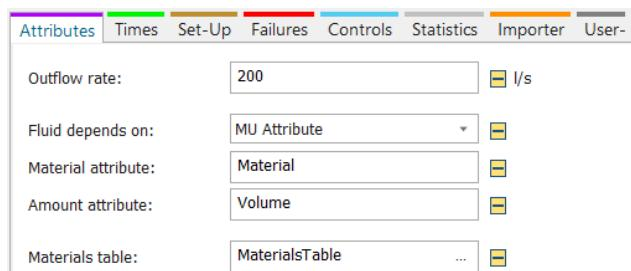

Fig. 10.33 Deportioner settings
- The DePortioner should get all settings from the user-defined attributes of the MU. Make the settings as shown in Fig. 10.33.